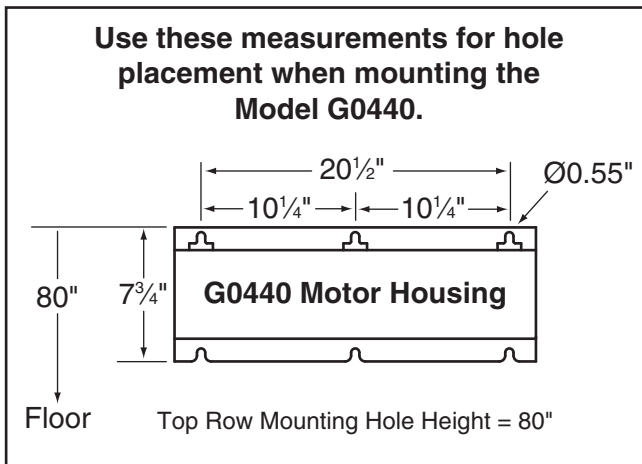

Figure 7. G0440 wall mounting layout.
- Copy the mounting hole layout pattern from the motor housing (see **Figures 7–8**) to your wall mounting board, making sure the **Top Row Mounting Hole Height** is correct for your dust collector.
- Copy the mounting hole layout pattern from the motor housing to your wall, making sure the **Top Row Mounting Hole Height** (see **Figures 7–8**) is correct for your dust collector.